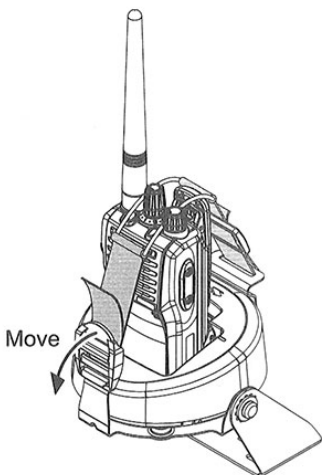

FIGURE 9
8. To unfasten the Cloth Band, bring your thumb to the top of the Adjuster "A", and then move the Adjuster "A" in the direction indicated by the arrowhead. Please refer to Figure 9.